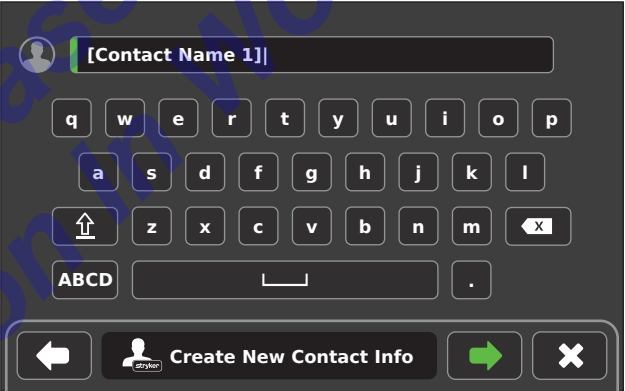

Figure 31 – Enter CONTACT INFO Name
4. Using the keyboard, enter the name and touch the FORWARD button (Figure 31).